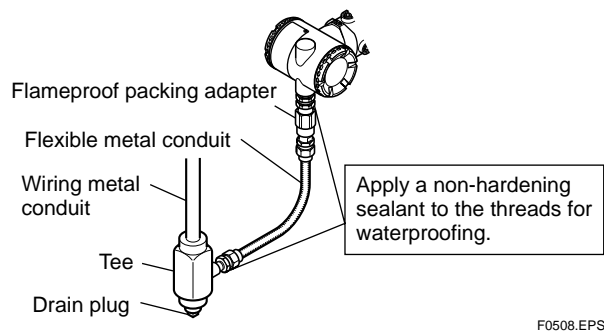

Figure 5.4.2b Typical Cable Wiring Using Flameproof Packing Adapter
- Wiring cable through flameproof packing adapter for only JIS flameproof type (see Figure 5.4.2b).